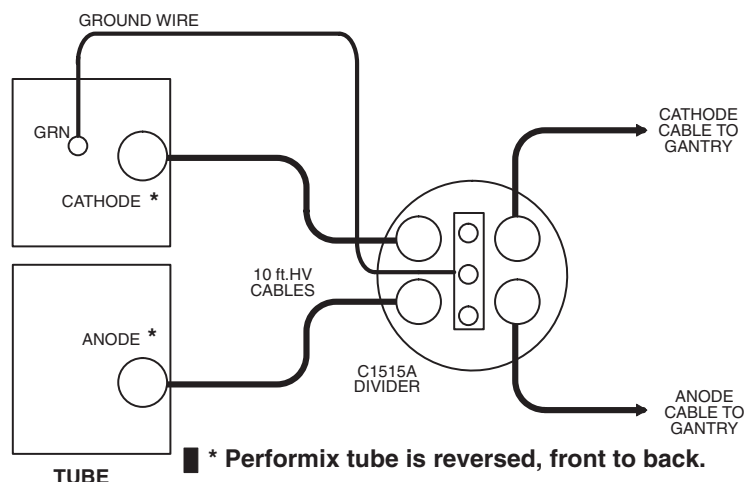

Figure 49 - HV Divider Installation
- 2.) Add a ground wire (minimum size of AWG 12) from Tube ground to bleeder ground. Refer to Figure 49.
- d.) Remove the **HV** Divider between the Tube and Tanks (Figure 49, on page 47).